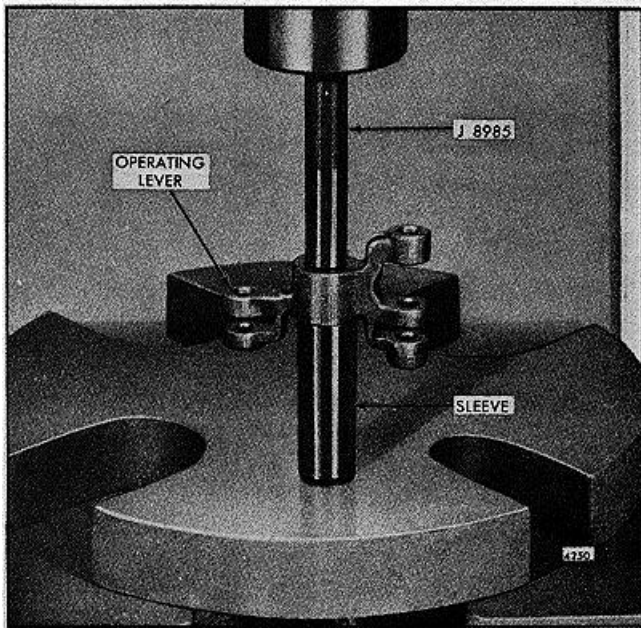

FIG. 18 Removing Operating Lever Needle Bearings
- m. If removal of the needle bearing is necessary, support the control link operating lever on a sleeve and rest the sleeve on the bed of an arbor press. Place tool J 8985 on top of the bearing and press both bearings out of the lever as shown in Fig. 18.